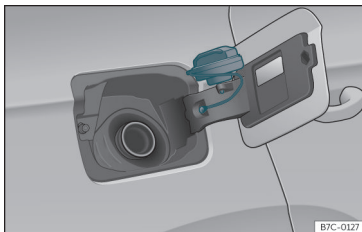

Fig. 199 Fuel tank flap with tank cap attached.
- Place it in the space on the hinge of the open flap»» **Fig. 199**.